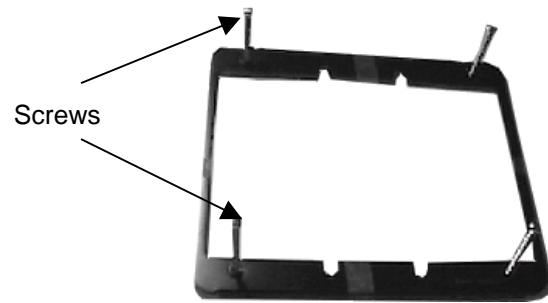

Figure 2: Insertion of Screws into Adjustable Retaining Ring
Step 4. Insert the four screws, which are provided, into the adjustable retaining ring from bottom side of the table. The adjustable retaining ring allows securing unit to the table. The adjustable retaining ring is a flat square plate with two bent edges, that will not fit into the hole in the table (See Figure 2).